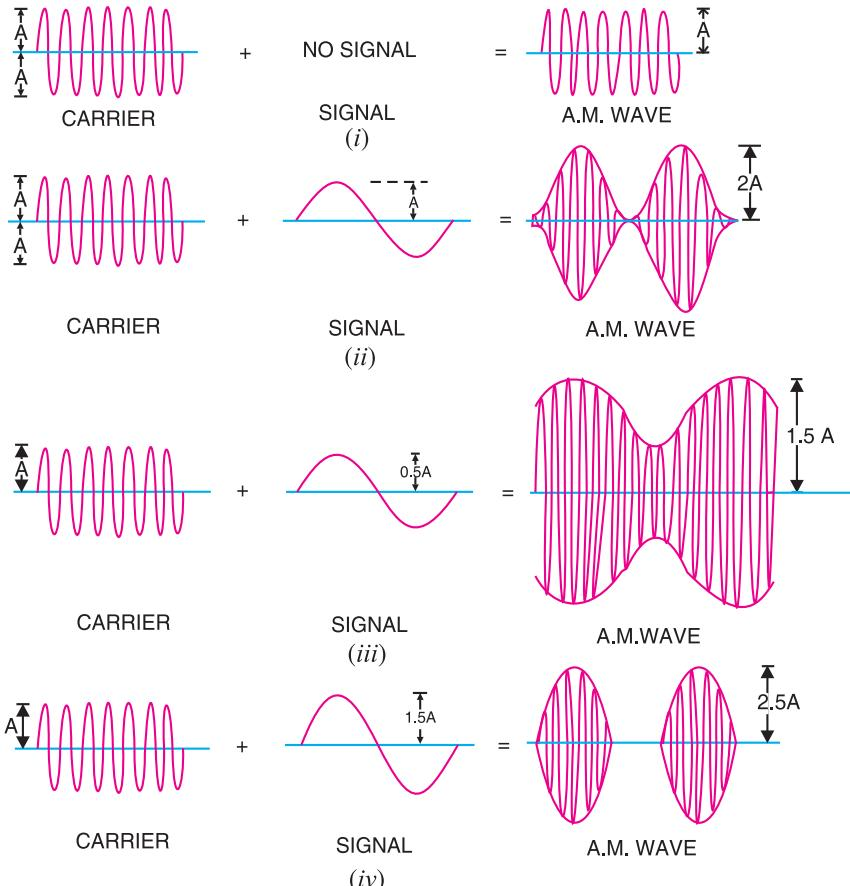

Fig. 16.3
The value of modulation factor depends upon the amplitudes of carrier and signal. Fig. 16.3 shows amplitude modulation for different values of modulation factor m .
- (i) When signal amplitude is zero, the carrier wave is not modulated as shown in Fig. 16.3 (i). The amplitude of carrier wave remains unchanged.
(ii) When signal amplitude is equal to the carrier amplitude as shown in Fig. 16.3 (ii), the amplitude of carrier varies between $2A$ and zero.
(iii) When the signal amplitude is one-half the carrier amplitude as shown in Fig. 16.3 (iii), the amplitude of carrier wave varies between $1.5 A$ and $0.5 A$.
(iv) When the signal amplitude is 1.5 times the carrier amplitude as shown in Fig. 16.3 (iv), the maximum value of carrier wave becomes $2.5 A$.
Importance of modulation factor. Modulation factor is very important since it determines the strength and quality of the transmitted signal. In an AM wave, the signal is contained in the variations of the carrier amplitude. When the carrier is modulated to a small degree (i.e. small m), the amount of carrier amplitude variation is small. Consequently, the audio signal being transmitted will not be very strong. The greater the degree of modulation (i.e. m), the stronger and clearer will be the audio signal. It may be emphasised here that if the carrier is overmodulated (i.e. $m > 1$), distortion will occur during reception. This condition is shown in Fig. 16.3 (iv). The AM waveform is clipped and the envelope is discontinuous. Therefore, degree of modulation should never exceed 100%.